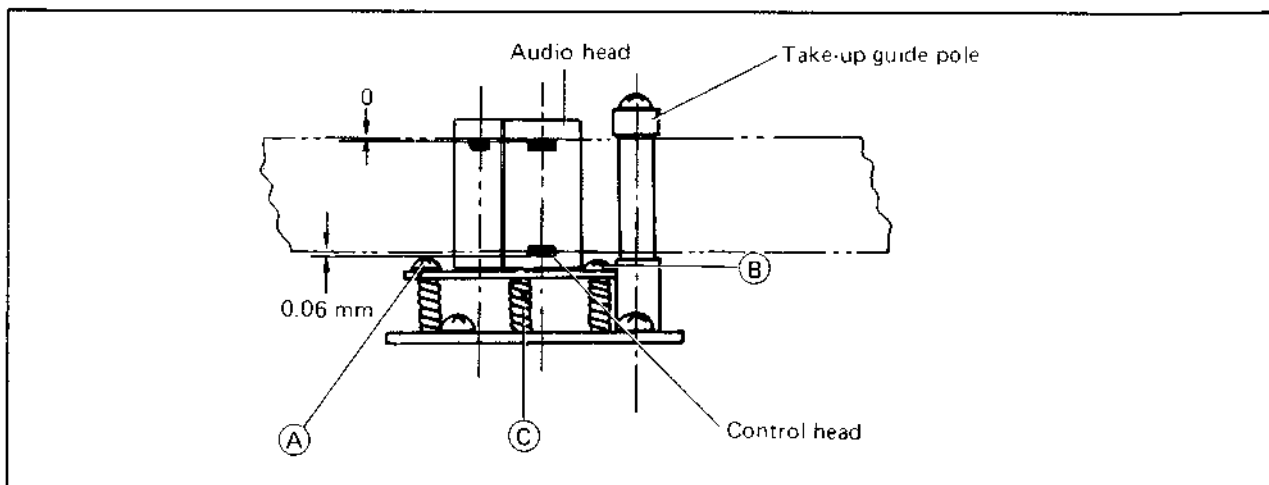

Fig. 4-38
5. Required height of the A/C head is as shown in Fig. 4-38. Adjust by turning screws (A), (B) and (C).